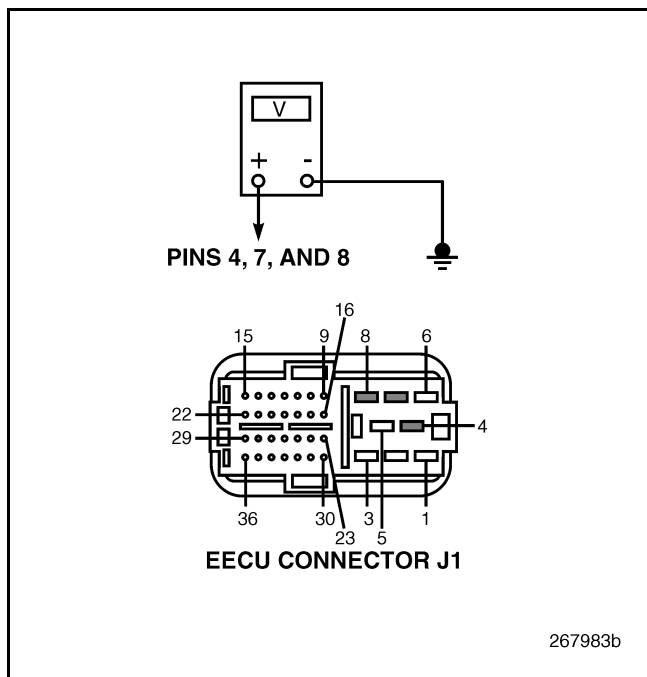

Figure 729
4. Measure the voltage between EECU connector J1 pins 4, 7 and 8 versus a good ground (see Figure 729).